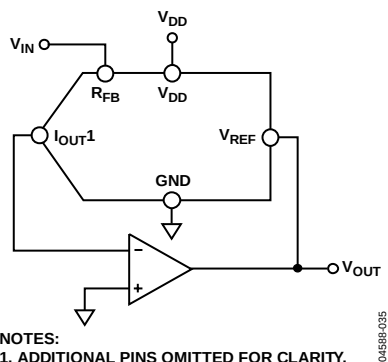

Figure 43. Current-Steering DAC Used as a Divider or Programmable Gain Element
Current-steering DACs are very flexible and lend themselves to many different applications. If this type of DAC is connected as the feedback element of an op amp and R_{FB} is used as the input resistor, as shown in Figure 43, then the output voltage is inversely proportional to the digital input fraction, D .
As D is reduced, the output voltage increases. For small values of the digital fraction (D), it is important to ensure that the amplifier does not saturate and the required accuracy is met. For example, an 8-bit DAC driven with the binary code 0x10 (0001 0000), that is, 16 decimal, in the circuit of Figure 43, should cause the output voltage to be $16 \times V_{IN}$. However, if the DAC has a linearity specification of ± 0.5 LSB, then D can, in fact, have a weight in the range of $15.5/256$ to $16.5/256$, so the possible output voltage is in the range $15.5 V_{IN}$ to $16.5 V_{IN}$. This is an error of 3%, even though the DAC itself has a maximum error of 0.2%.